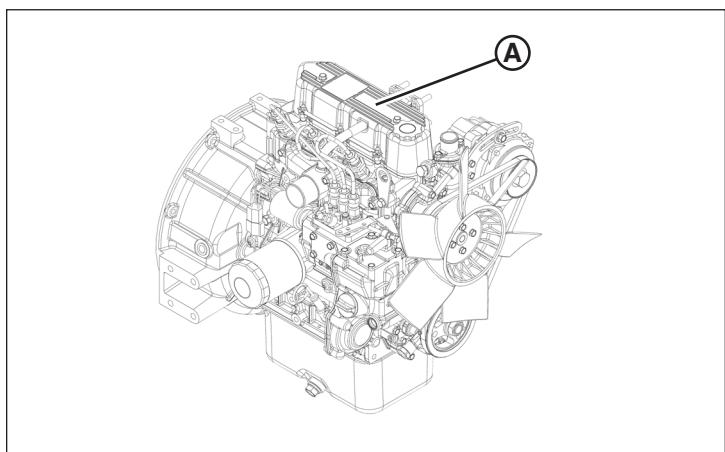

Figure 28
**Mitsubishi:** The engine has a serial number plate (**A**, Figure 28) attached to the top of the engine.